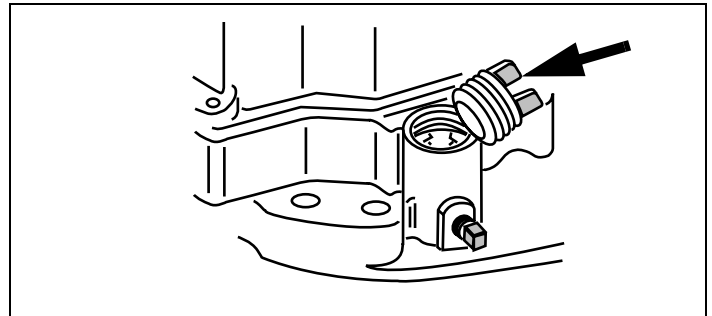

Figure 42. Oil Fill Plug
9. Remove oil fill plug. See Figure 42.
10. Add oil to overflow point, making sure to avoid spilling and fill with recommended oil. See Figure 42. See "III. Oil and Fuel Specifications" instructions on page 4. See Table 1 on page 4. Afterward, continue reading instructions below.
12. Screw oil fill plug back into oil fill hole. Tighten securely. See Figure 42.